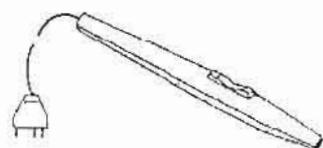

Figure 2-10. Handswitching pencil.
(2) *Handswitching pencils (fig 2-10).*